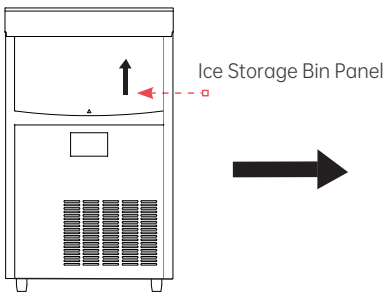

Figure4
1. Push the ice storage bin panel upward to open it (Figure 4).